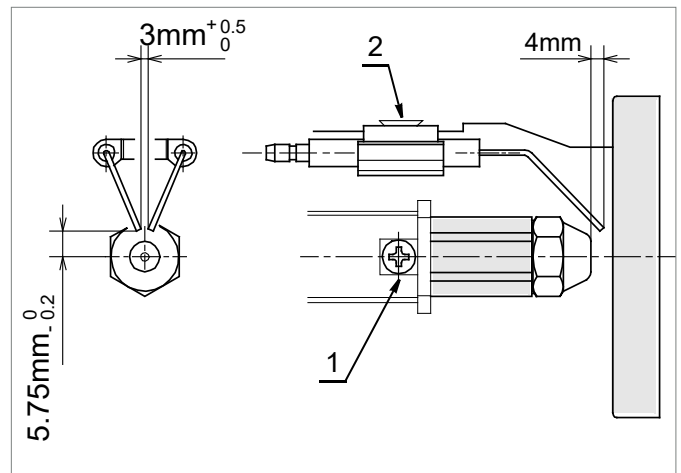

Figure 10-7: Ignition electrode settings
8. Check/adjust the electrode assembly to give the correct gap (4mm) between the nozzle and electrodes. Refer to Figure 10-7.